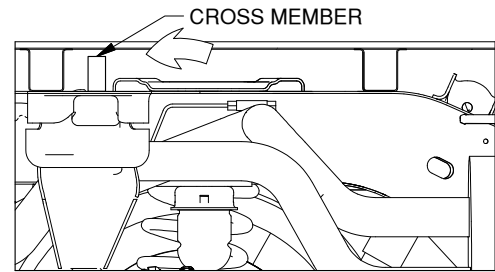

FIGURE B3: Cut-away view of under bed looking from passenger side of truck.
- 4. Position the rear cross member.** Adjust the cross member so that it is parallel to the axle and slide it toward the rear of the truck until it is over the frame cross member where the wiring harness was attached. Rotate the cross member from flat to vertical so that the notch on the driver side of the cross member is down, see Figure B3. This notch provides clearance for the wiring harness and an exhaust bracket that is present on models that have dual exhaust. Slide the cross member rearward as far as possible while making sure that the wiring harness does not get pinched or smashed. The cross member will rest on the frame and should be suspended just above the frame cross member.